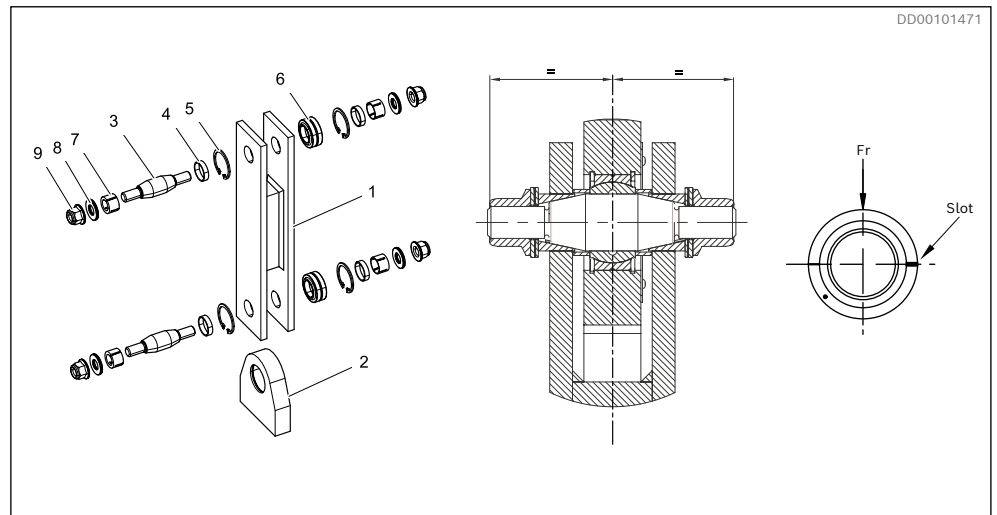

Fig. 23: Heavy duty articulated connection for TC A
- 1.** The bearing (6) shall be mounted by using a mounting sleeve or tube applied on the bearing outer ring.
- 2.** The bearing (6) shall be mounted with the slot in the outer ring perpendicular towards the load direction. See Fig. 23
- 3.** Lock the bearings (6) with the circlips (5)
- 4.** Grease the chonical sleeves (7) and shaft (3) with grease available, preferably graphite grease. Do not grease the threads.
- 5.** Insert the shaft (3) and then the supporting sleeves (4) and position the shaft (3) in the bores. Make sure the shaft is centered, see Fig. 23. Install the sleeves (7), then wedge lock washers (8) and nuts (9). Tighten the nuts with 115 Nm (85 lb-ft) for TC A 0050 to TC A 0070 / 175 Nm (129 lb-ft) for TC A 0100 to TC A 0210.